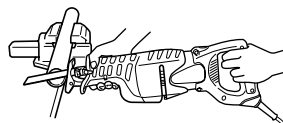

Fig. 20
- (1) Fasten a workpiece firmly before operation. (Fig. 20)
- (2) When cutting metallic materials, use proper machine oil (turbine oil, etc.). When not using liquid machine oil, apply grease over the workpiece.